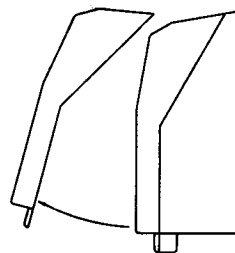

Figure 1
2. Remove front cover by pulling bottom of the front cover out and up. (Fig 1)